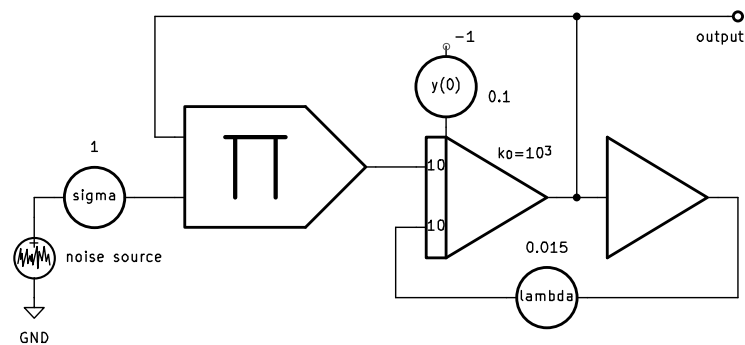

Figure 1: Analog computer setup for equation (1)
Equation (1) can be directly transformed into an analog computer setup as shown in figure 1. With a time scaling factor of $k_0 = 10^3$ set at the integrator, the noise source should have a bandwidth of 50 kHz to 100 kHz. Lower bandwidth noise requires smaller k_0 to avoid overloads, since the positive feedback λy is the dominating term and would result in an exponentially increasing output signal on its own.